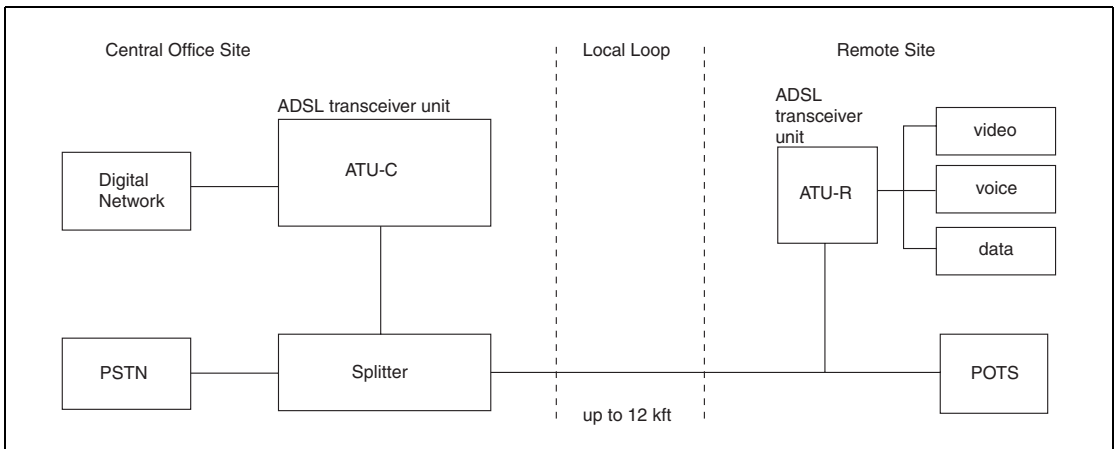
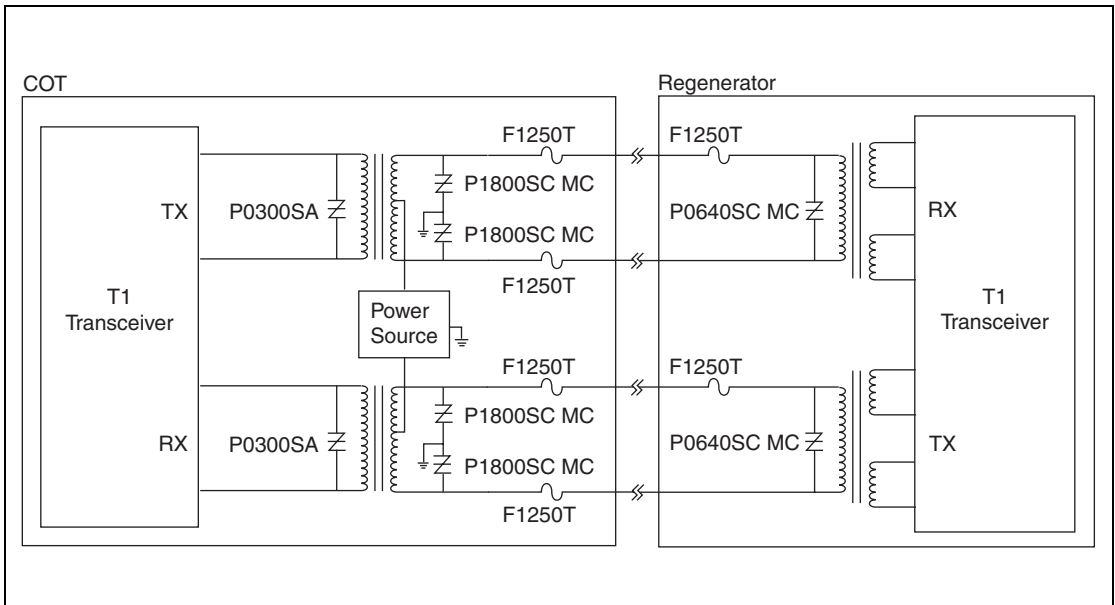

Figure 3.7 ADSL Overview
Figure 3.17 T1/E1 Protection
Transmission equipment should be protected against overvoltages that can exceed 2500 V and surge currents up to 500 A. In Figure 3.7 through Figure 3.17, *SIDACtor* devices were chosen because their associated peak pulse current (I_{PP}) rating is sufficient to withstand the lightning immunity tests of GR 1089 without the additional use of series line impedance. Likewise, the fuse shown in Figure 3.7 through Figure 3.17 was chosen because the amps^2time (I^2t) rating is sufficient to withstand the lightning immunity tests of GR 1089, but low enough to pass GR 1089 current limiting protector test and power cross conditions (both first and second levels).
Asymmetric Digital Subscriber Lines (ADSLs) employ transmission rates up to 6.144 Mbps from the Central Office Terminal (COT) to the Remote Terminal (RT) and up to 640 kbps from the RT to the COT at distances up to 12,000 feet. (Figure 3.7)
Longitudinal protection is required at the Central Office Terminal (COT) interface because of the ground connection used with loop powering. (Figure 3.17) Two P1800SC MC *SIDACtor* devices provide overvoltage protection and two F1250T *TeleLink* fuses (one on Tip, one on Ring) provide overcurrent protection. The P1800SC MC device is chosen because its V_{DRM} is compliant with TIA-968 regulations, Section 4.4.5.2, "Connections with protection paths to ground." These regulations state:
For the transceiver side of the coupling transformer, additional overvoltage protection is shown in Figure 3.17 using the P0300SA *SIDACTor* device. When an earth ground connection is not used, only metallic protection is required. Metallic protection is satisfied using a single P0640SC MC *SIDACTor* device across Tip and Ring and a single F1250T *TeleLink* fuse on either Tip or Ring.